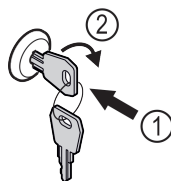

Fig. 173
- Insert the key. Fig. 173 (1)
- Turn the key clockwise by 90°. Fig. 173 (2)